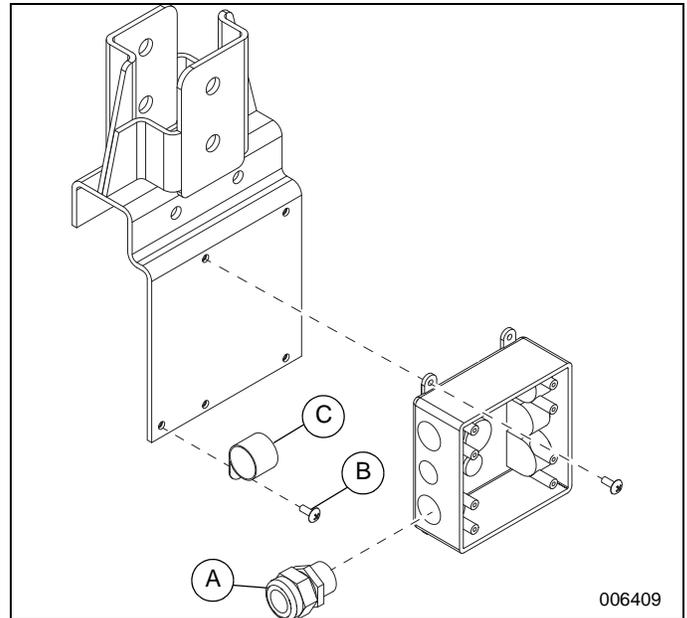

Figure 13. Junction Box Installation
8. See Figure 13. Install strain relief to junction box. Install coil-cord to tubing clamp, then install tubing clamp as shown.